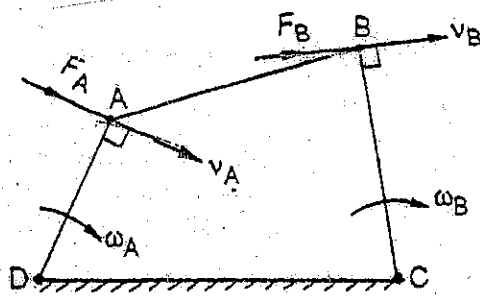

FIGURE-5.
2. (a) (i) Calculate the force acting in a mechanism of a four bar chain as shown in **FIGURE-5**, at the point B, and what is the difference between **ideal mechanical advantages** and **actual mechanical advantage** in this four bar chain. (10)